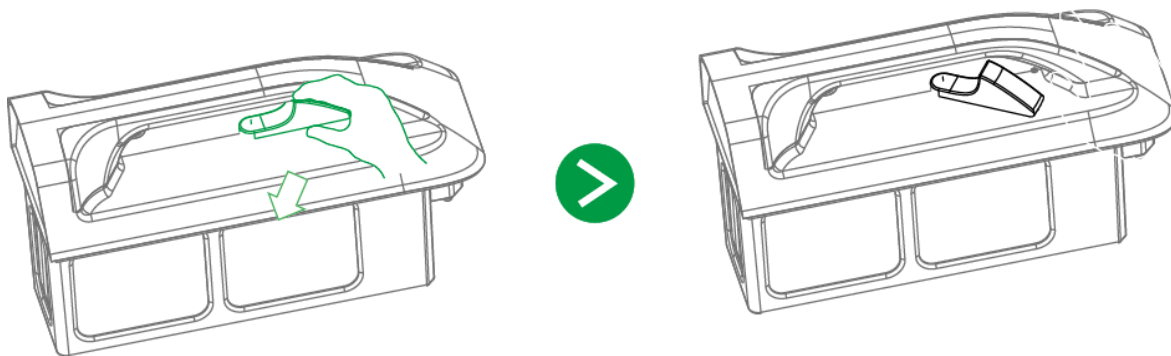

Figure 3-13
Step 1 Open the battery buckle, as shown in Figure 3-13.